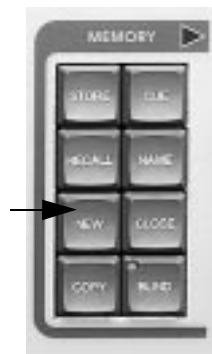

Figure 9.2. MEMORY Group
2. Press the <NEW> key in the MEMORY key group. Refer to Figure 9.2.